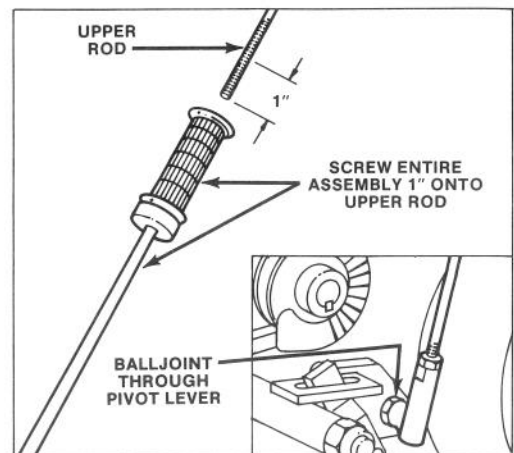

Figure 3
2. Screw hand grip and lower rod assembly about one inch onto upper rod (Fig. 3). Insert ball joint at end of lower rod through the pivot lever (Fig. 3 inset), but do not install lock nut.
4. Install ball joint through the pivot lever (Fig. 3 inset) and install lock nut. Tighten nut securely.